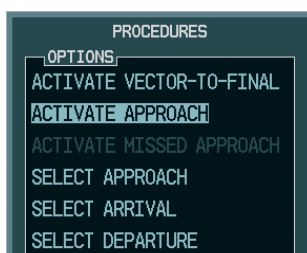

Figure 5-144 Manually Activate Approach
- Turn the large **FMS** Knob to highlight 'ACTIVATE APPROACH' as shown in Figure 5-144.